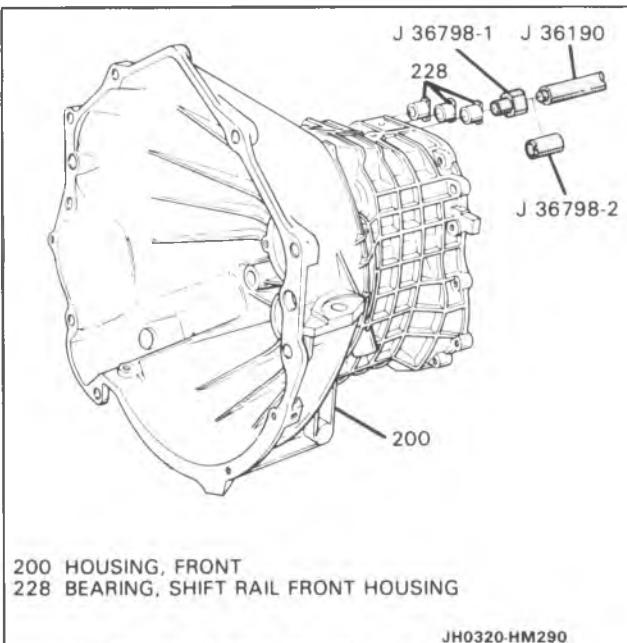

Figure 55 Shift Rail Bearings Install
1. Ball bearing outer race (216), using brass drift.
2. Three shift rail front housing bearings (228), using J 36798-1 and J 36190 (Figure 55).